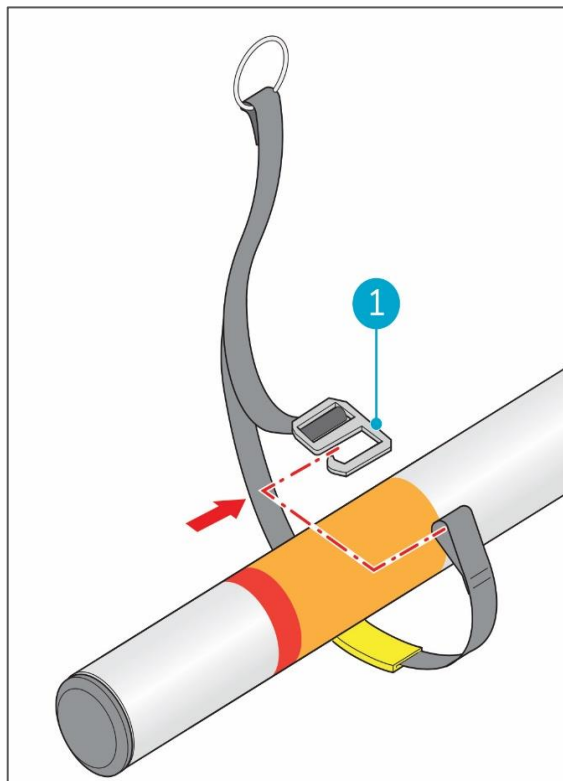

Figure 10
1. Attach the support strap to the lower end of your telescopic pole ( Figure 10, pos. 1).